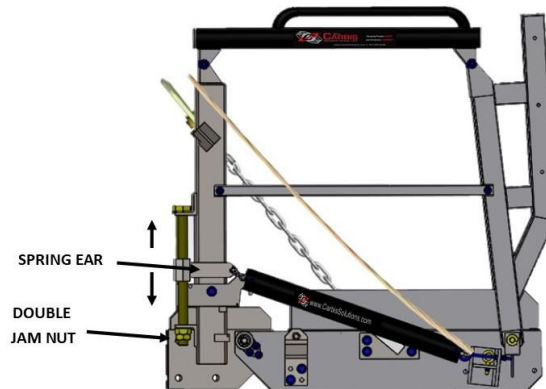
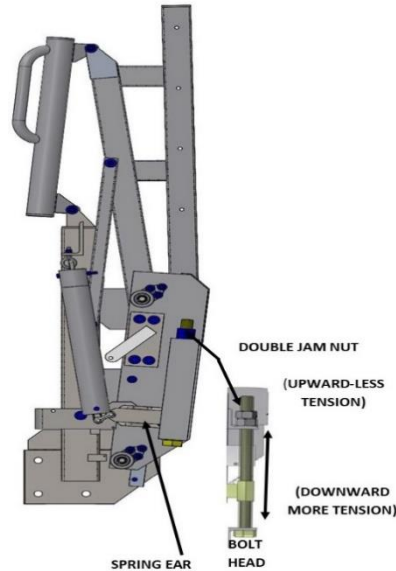

FIGURE 6-2 ADJUST VIEW FOR TCGs HAVING 4 OF MORE STEPS
FIGURE 6-3 TCG 3-STEP GANGWAY ADJUSTMENT PERFORMED IN STORED POSITION (CUT AWAY VIEW)
*** Spring counterbalance system adjustment may be required for adjusting the amount of force necessary for the return of the gangway to the stored position. The springs are factory set for the gangway weight and any purchased options. These could include a seatainer end tread and/or a cage. All purchased options must be installed, and springs adjusted prior to use for the springs to properly function. See Figure 6-2 for TCGs with 4 steps or more or Figure 6-3 for a TCG with 3 Steps for adjustments procedures reference.**